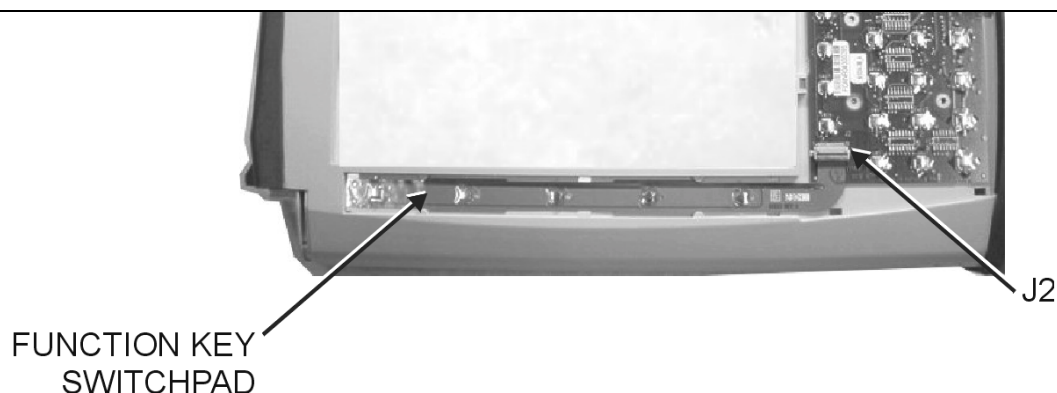

Figure 24. Function Key Switchpad
5. Disconnect the function key flexible switchpad from J2 of the keypad PCB by carefully lifting the locking tab on connector J2 to release the flexible switchpad (Figure 24).